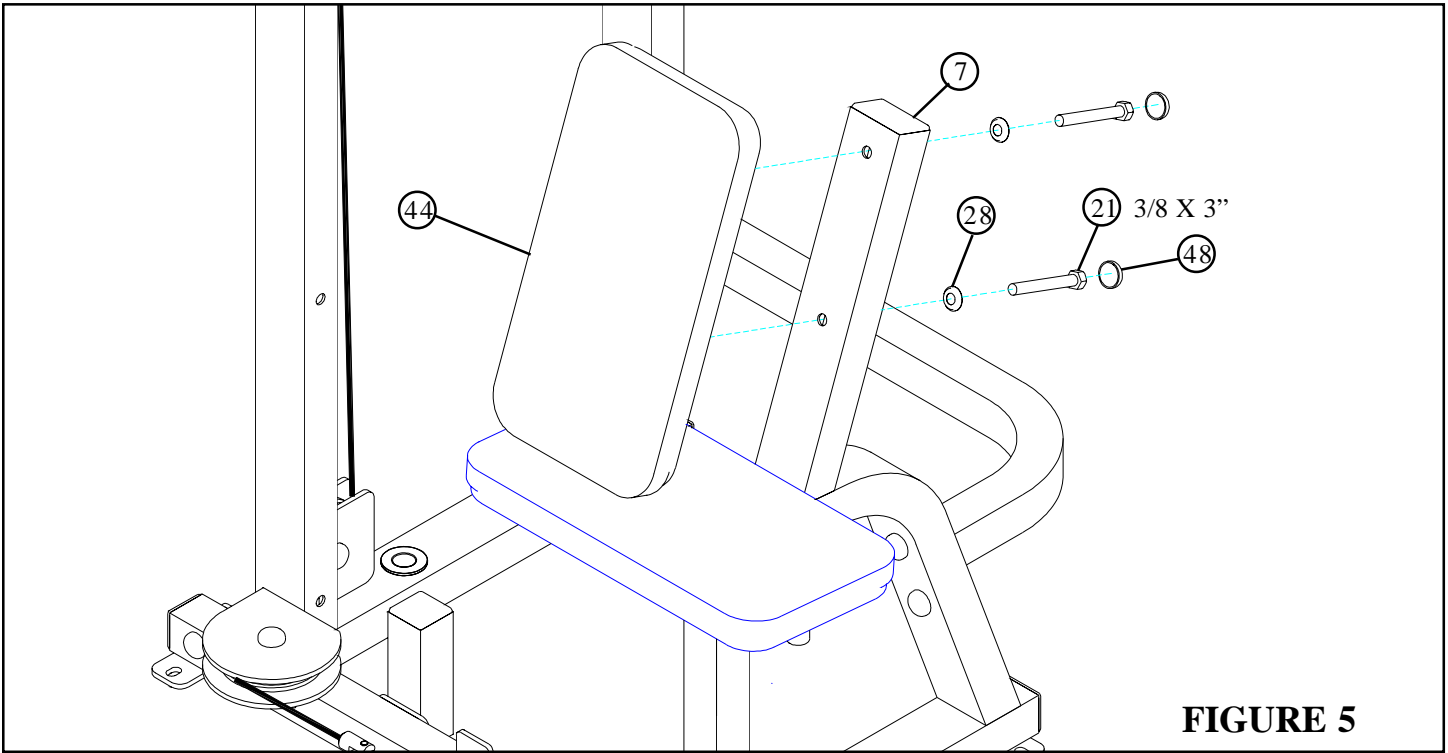

FIGURE 5
- **SECURELY** assemble the SEAT PAD (44) to the SEAT FRAME (7) using two RH CAPS (48), two 3/8 X 3" BOLTS (21) and two 3/8" RH WASHERS (28) as shown in FIGURE 5.